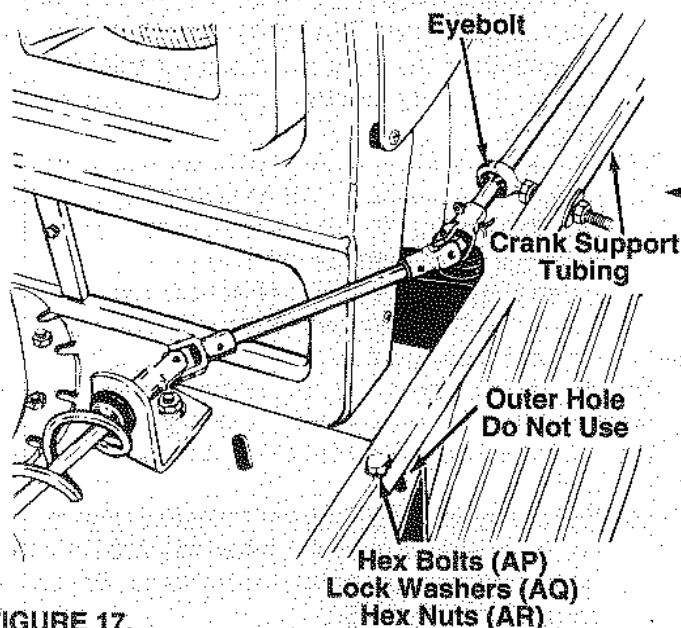

FIGURE 17.
- Assemble the crank support tubing to the snow thrower housing, using the inner hole in the housing as shown in figure 17. Secure in place with two hex bolts (AP), lock washers (AQ) and hex nuts (AR). An adjustable wrench and 1/2" wrench are required.
- Slip the end of chute crank rod through the grommet in eyebolt and into the universal joint. Secure with cotter pin (AS). Secure by bending the ends of the pin in opposite directions. See figure 17.